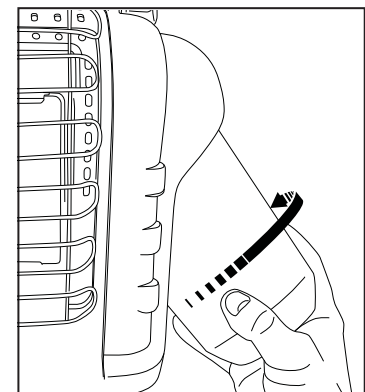

Figure 2: Attach fuel tank
- To use with propane: Swivel regulator outward for easy tank installation. Screw 1 lb. (465g) disposable Propane-gas (G31) supply cartridge clockwise (from bottom) into portable heater until hand-tight; see Figure 2. DO NOT use thread sealant on this connection.